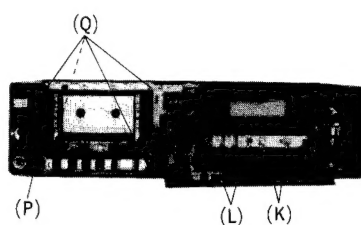

Fig. 5
C Erase head height adjustment Condition: * Playback mode Equipment: * Test tape (tape path viewer) ...QZZCRD	<p>Caution:</p> <ol style="list-style-type: none"> 1. Remove screws (D) and (E) to replace the erase head. (Do not remove nut (C) since it is designed for erase head height. Adjustment to maintain performance.) 2. After erase head replacement, check by playing test tape (QZZCRD) back to see that the tape travels properly. 3. For any tape travel performance problem, follow the procedure below for adjustment. <p>Adjustment</p> <ol style="list-style-type: none"> 1. Adjust nut (C) shown in fig. 5 so that the tape may not get curled or malformed by tape guide of the erase head. 2. After adjustment, lock nut (C) with lacquer.  <p style="text-align: center;">Fig. 5</p>